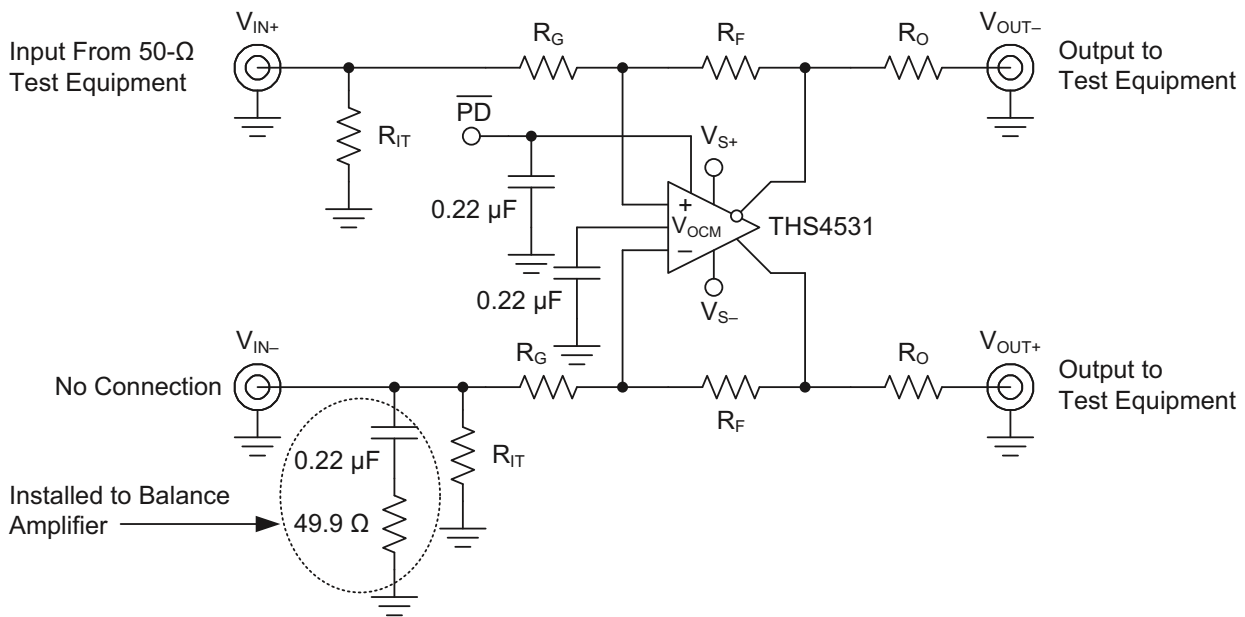
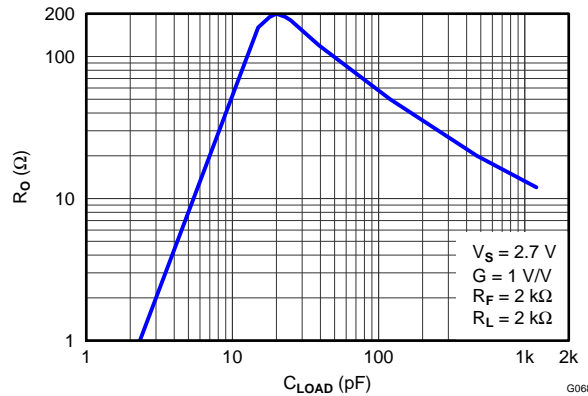
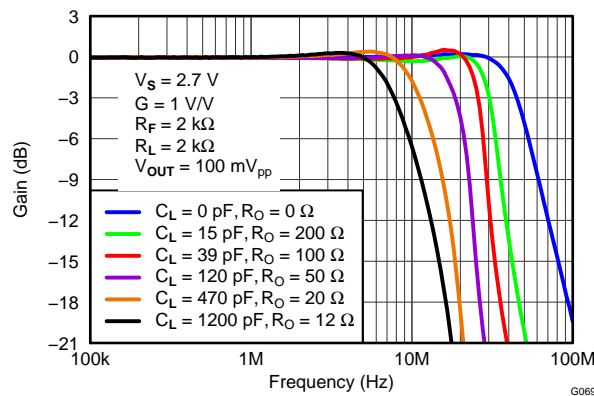

Figure 69. Slew Rate, Transient Response, Settling Time, Z_O , Overdrive Recovery, V_{OUT} Swing, and Turn-on/off Test Circuit
Figure 78. Recommended Series Output Resistor vs Capacitive Load for Flat Frequency Response
Figure 79. Frequency Response for Various R_O and C_L Values
The circuit shown in Figure 69 is used to measure slew rate, transient response, settling time, overdrive recovery, and output voltage swing. Turn on and turn off times are measured with 50 Ω input termination on the PD input, by replacing the 0.22 μ F capacitor with 49.9 Ω resistor.
Inserting R_O will compensate the phase shift and restore the phase margin, but it will also limit bandwidth. The circuit shown in Figure 69 is used to test for best R_O versus capacitive loads, C_L , with a capacitance placed differential across the V_{OUT+} and V_{OUT-} along with 2k Ω load resistor, and the output is measure with a differential probe. Figure 78 shows the optimum values of R_O versus capacitive loads, C_L , and Figure 79 shows the frequency response with various values. Performance is the same on both 2.7V and 5V supply.
4. A series output resistor is recommended to be placed as near to the output pin as possible. See Figure 78 "Recommended Series Output Resistor vs. Capacitive Load" for recommended values given expected capacitive load of design.